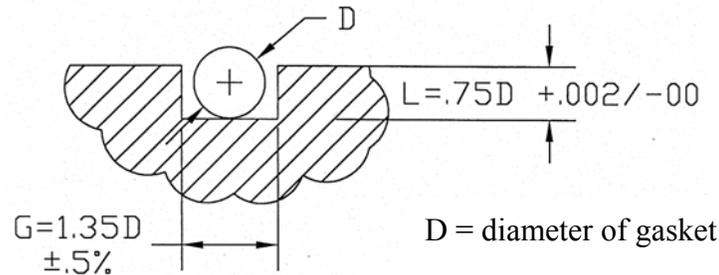

Figure 1 - Regular O-Ring Groove
1. Regular O-Ring Groove. This groove is illustrated below with a width of 35% wider than the diameter of the gasket (see figure 1.) This groove is recommended when machining cost is critical and the manufacturing process is such that the gasket will not fall out of the groove during the assembly of the equipment.